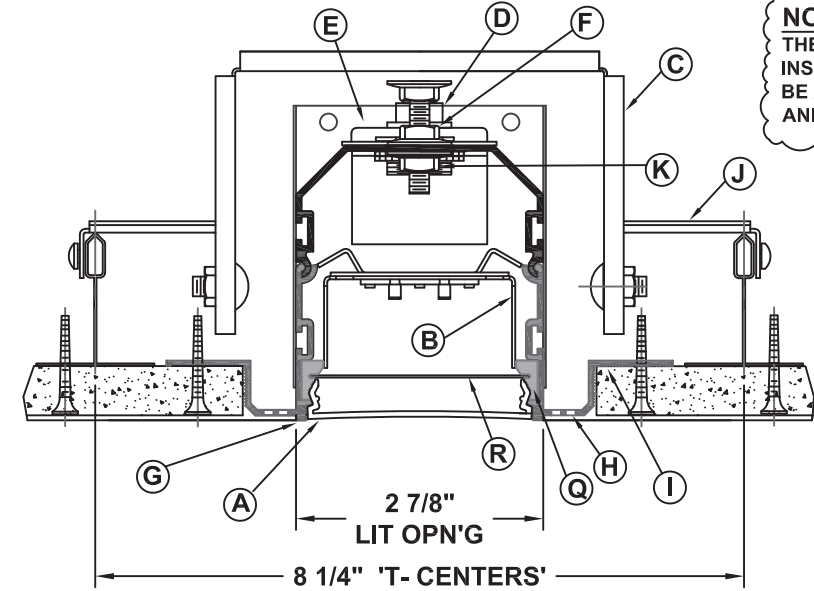

FIG. 1
- STEP 1: CEILING CONTRACTOR TO PROVIDE SUPPORT T's OR CARRYING CHANNELS AS DESCRIBED IN STEP 1 ON FRONT PAGE. (REF. FIG. 1 OR 2)
DRYWALL "T" CEILING CONSTRUCTION (FIG 1)
CEILING CONTRACTOR TO PROVIDE TWO FIXED MAIN "T's" ON CENTERS INDICATED IN FIG. 1 BY LENGTH OF FIXTURE RUN AS INDICATED ON FACTORY SHOP DRAWINGS. T's SHOULD BE ADEQUATELY SUPPORTED TO CARRY WEIGHT OF FIXTURE.
ADJUST LOWER NUT (K) WITHIN FIXTURE HOUSING SUCH THAT THE SERRATED FLANGE (I) IS FLUSH WITH CEILING FRAMING. TIGHTEN UPPER JAM NUT DOWN ONTO FIXTURE HOUSING TO LOCK IT INTO POSITION. (REF. PAGE 1 FIGURES 1 & 2)
DRYWALL CONTRACTOR TO ATTACH DRYWALL TO PERIMETER FLANGE SERRATED SECTION (I) OF FIXTURE WITH SELF DRILLING DRYWALL SCREWS. (REF. PAGE 1 FIGURES 1 & 2)